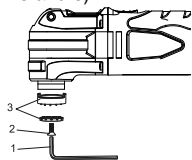

Figure 8
1. Install the wood plunge cut saw blade in the tool. (Figures 8 and 9)
1. Install the plunge cutting saw blade for wood in the tool. (Figures 8 and 9)
1. Install the half-circle saw blade for wood and drywall in the tool. (Figures 8 and 9)
1. Install the scraper blade on the Oscillating Tool. (Figures 8 and 9)